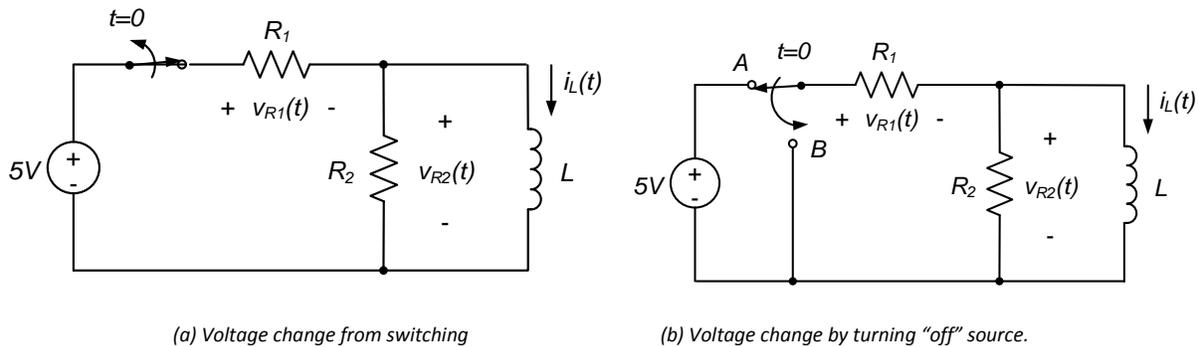

Figure 2. Models of physical approaches to reducing applied voltage.
- We will use a voltage source to apply the initial 5V, and physically open a switch to reduce the applied voltage to 0V. This will result in the circuit as shown in Fig. 2(a). Notice that in Fig. 2(a), the voltage source is replaced by an open circuit.
- A voltage source will be used to apply the 5V source, as above. However, in order to reduce the applied voltage to 0V, we will simply turn off the voltage source. This approach will result in the circuit shown in Fig. 2(b). Notice that in Fig. 2(b), the voltage source is replaced by a short circuit.
where the voltages $v_{R1}(t)$ and $v_{R2}(t)$ are as shown in Figs. 2. An oscilloscope can be used to measure these resistor voltages, and a math channel can be created to implement equation (1) and display the inductor current as a function of time.
Estimate the initial inductor current, $i_L(t < 0)$, and the time constant for the circuits of Figs. 2(a) and 2(b). Your solutions may be functions of R_1 , R_2 , and L .
- b. Construct the circuit of Fig. 2(b), still using $R_1=1k\Omega$, $R_2=2.2k\Omega$, and $L = 1mH$ as in part a). This circuit is essentially the same as the circuit of part (a), except that the waveform generator is used to provide power to the circuit. Set up the waveform generator to apply a square wave with an amplitude of 2.5V and an offset of 2.5V to your circuit. This square wave is used to implement the transition between 5V and 0V; use a very low frequency, 1Hz or so⁴.